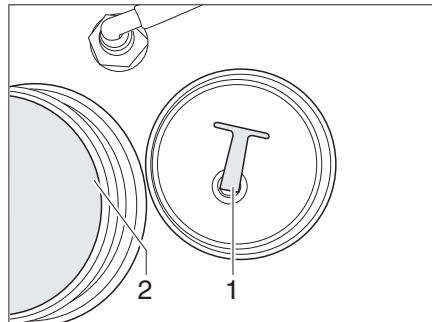

Fig. 136 Water tank
- Unscrew the cap (Fig. 136,2).
- Unscrew the cap (Fig. 136,2) on the water tank.
- Screw out the stopper (Fig. 136,1) from the drainage opening. The water drains off.